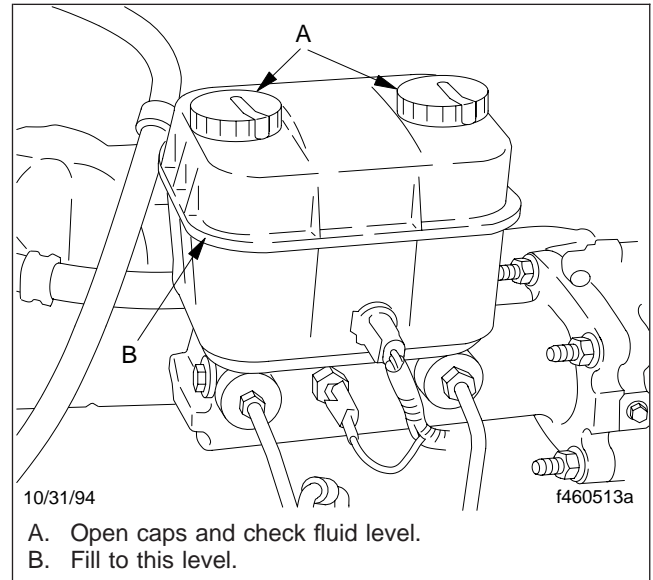

Fig. 8.3, Check the Hydraulic Brake Fluid Level
13. Check the fluid level in the hydraulic brake fluid reservoir, if so equipped. See **Fig. 8.3**.